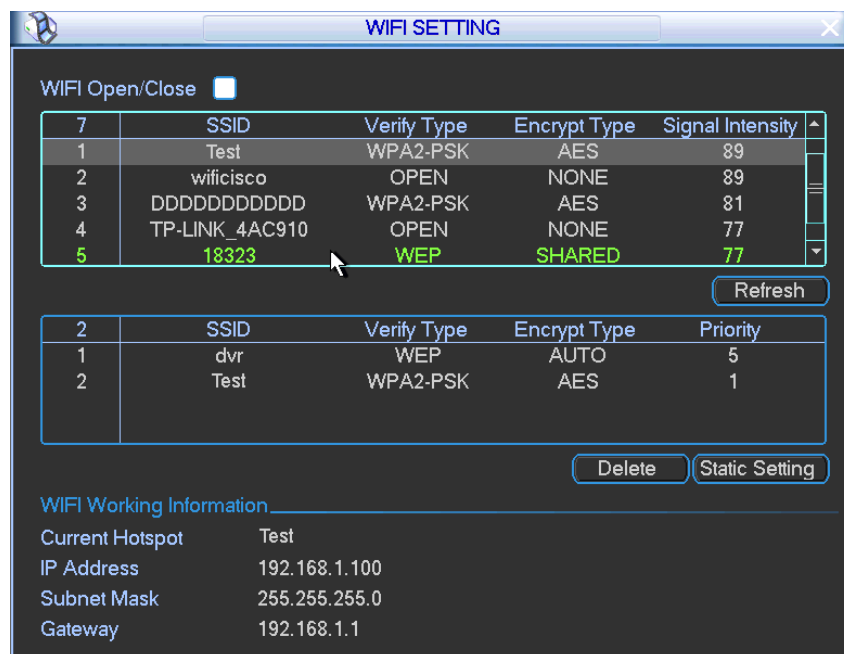

Figure 4-28
- WIFI working information: After system successfully connected to WIFI, you can view hotspot name, IP address, subnet mask, default gateway and etc. See Figure 4-28.